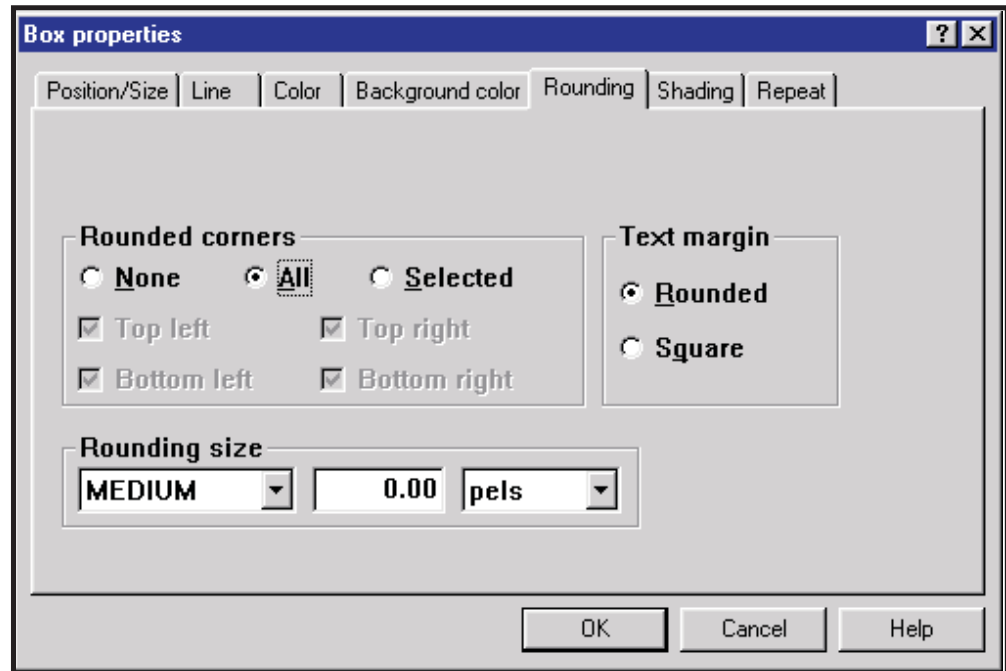

Figure 124. Box Properties Dialog - Rounding Page
3. To round the corners of the box, right-click anywhere on the border of the box. The **Box properties** dialog appears. Select the **Rounding** page, as shown in Figure 124 on page 205. Under Rounded corners, select **All** and make sure the